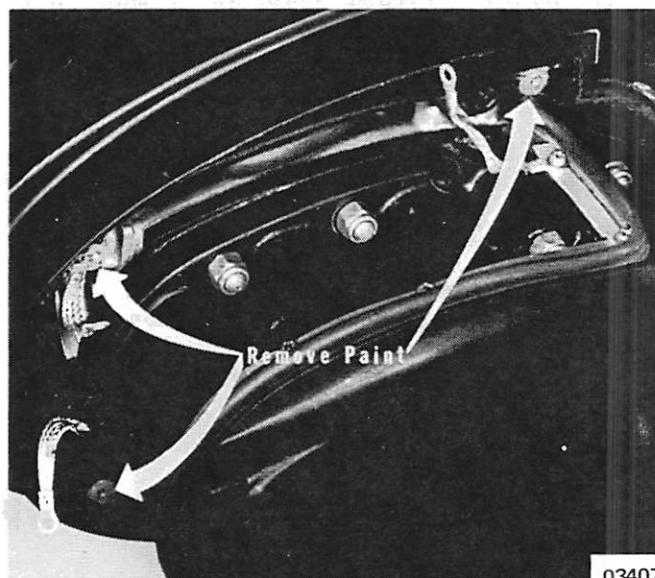

Figure 2. Paint Removed
5. Remove paint from trim cover screw lugs on the bottom cowl to insure a good connection. (Figure 2)